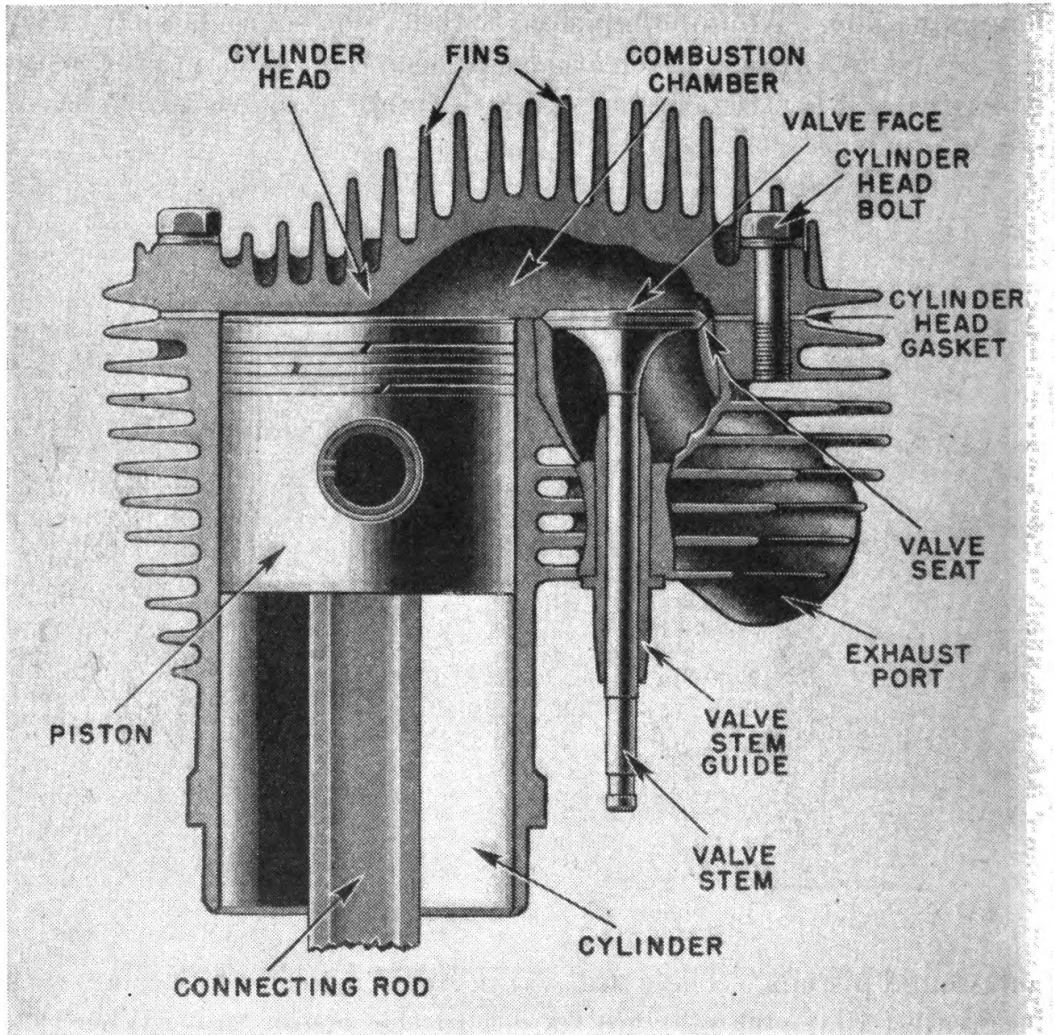

FIGURE 57.—Cross section of typical cylinder and head.
b. Figure 57 shows the general design of a modern flathead cylinder with a removable head. The combustion chamber is so shaped that the turbulence of the gases assists combustion and speeds up ignition without detonation or knocking. Cylinder bores are honed and sometimes burnished to a gun-barrel finish.